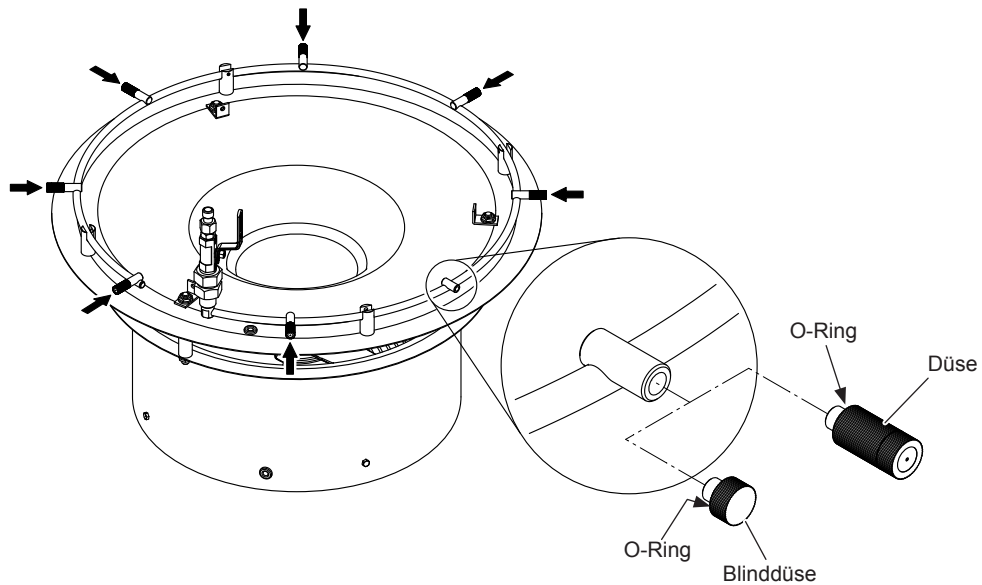

Fig. 27: Inserting the nozzles
8. Screw the nozzles into the nozzle adapters of the Condair Vita Space nebulizer as shown in Fig. 27 and tighten the nozzles by hand.
**Important:** Nozzle openings that face to the wall must be closed with a blind nozzle (see Fig. 27).